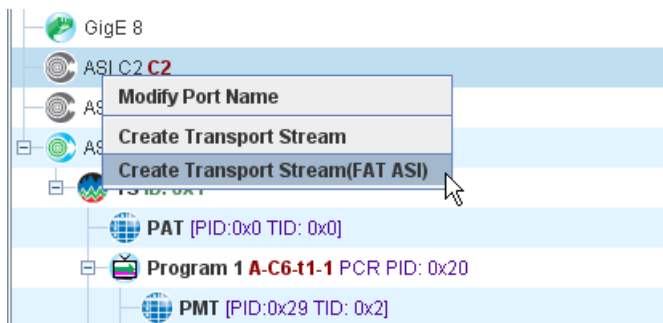

Figure 121. Choosing a FAT ASI Transport Stream
1. Right click the ASI port on which to create a FAT ASI port (Figure 121).